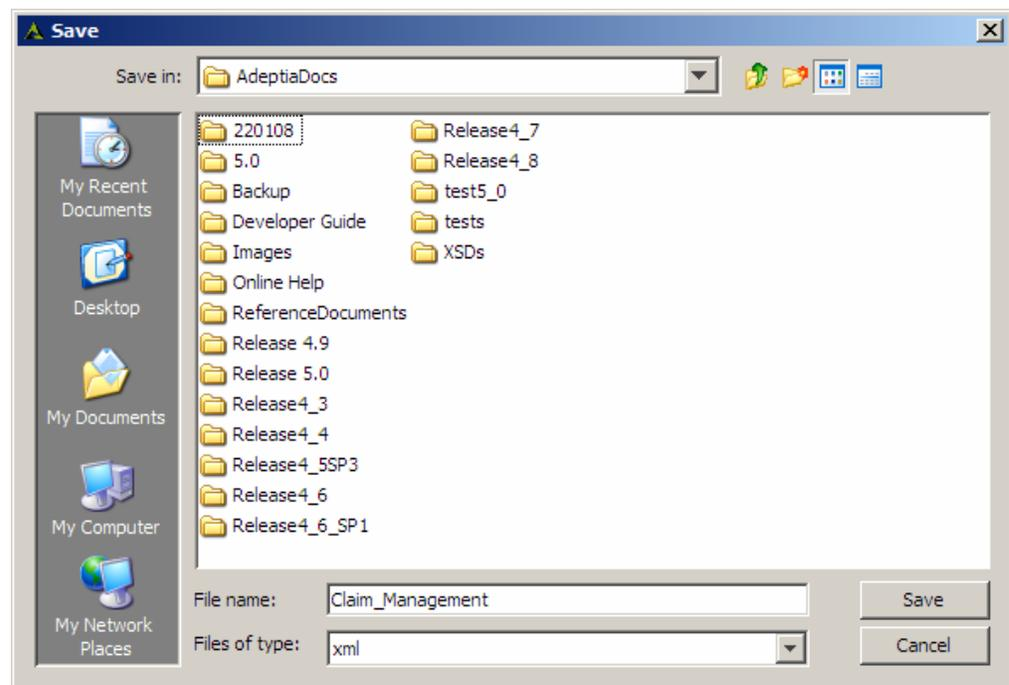

Figure 7.20: Save Process Model
- Click **File** menu and select **Save Process Model Locally** option. The Save window is displayed (see Figure 7.20).